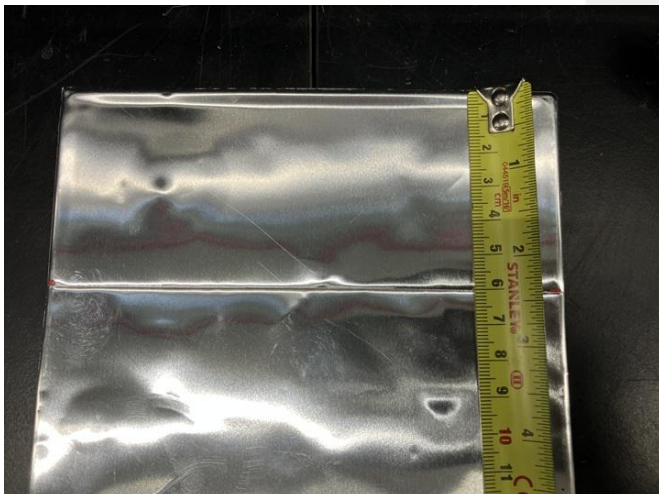

Figure 4
2. Cut the upper part of the butyl foil patch for the HEPA inlet duct: measure 6 cm (2.5 in) from the opposite side of the butyl foil, draw a line, and then cut out the measured section (Figure 4).